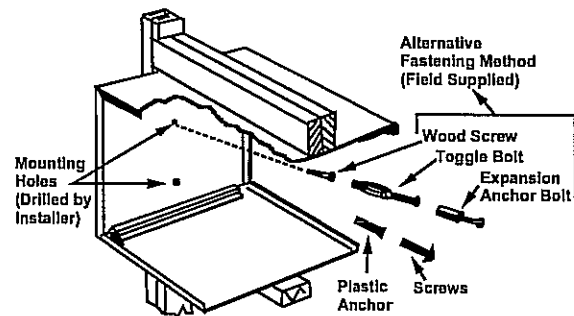

Figure 10 - Wall Sleeve Attachment to Opening
5. Two holes will need to be drilled in both sides of the wall sleeve for mounting into the wall. Drill holes of proper size and in the proper location so the screws will engage into strong supporting members of the wall. **DO NOT DRILL THROUGH BOTTOM OF SLEEVE.** Figure 10 shows possible fastening methods.